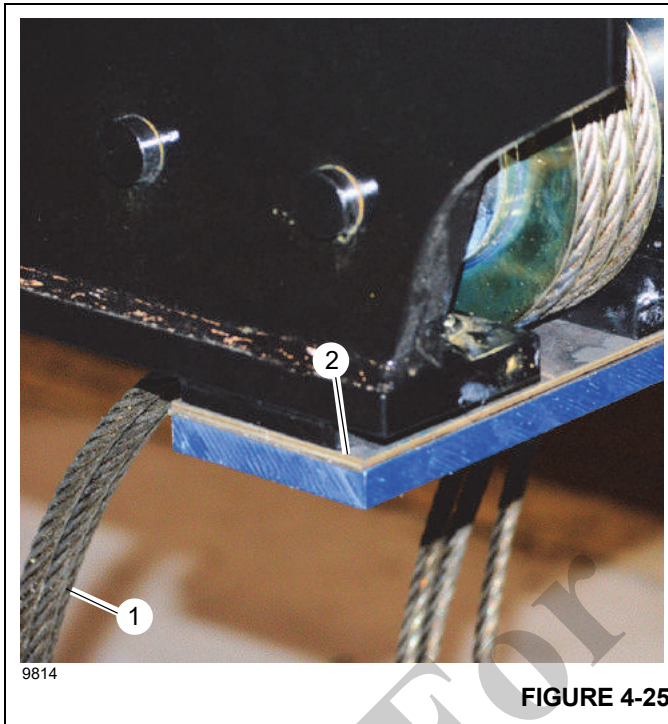

FIGURE 4-25
15. Install capscrews (11) and retract cable roller guides (12) into the base of the Tele 1 section boom.
16. Install two top wear pad mounting plates (52) and wear pads (53) using capscrews (54) and washers (55).
17. Install bottom wear pad (16) and shims (15) onto the base of the Tele 1 section boom using capscrews (14). Make sure the 3/2/1 retract cables (1, Figure 4-25) between the bottom of the Tele 1 section boom and the bottom wear pad shims (2).